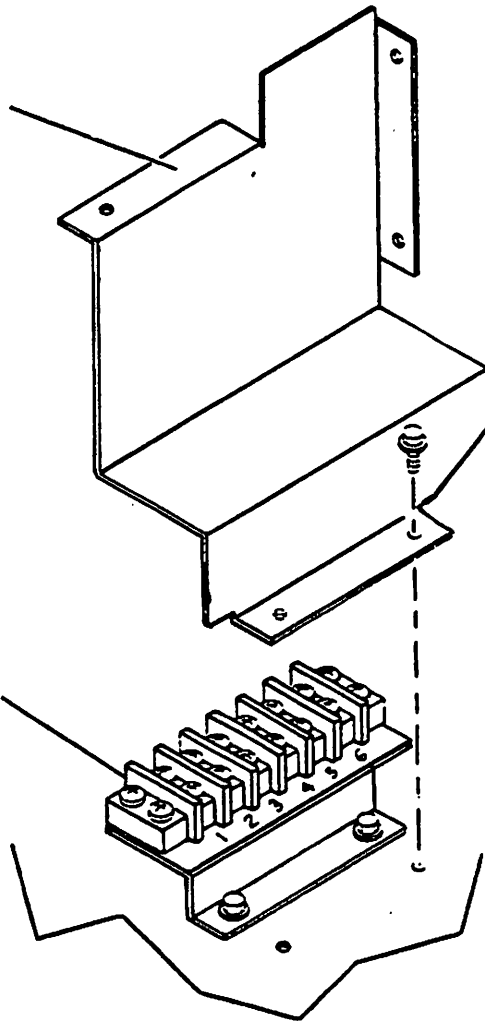

FIGURE 7-2 ACCESSING TERMINAL STRIP TB216
2. Remove five screws securing the transformer terminal block cover to power supply assembly and remove cover to expose terminal strip. See Figure 7-2.